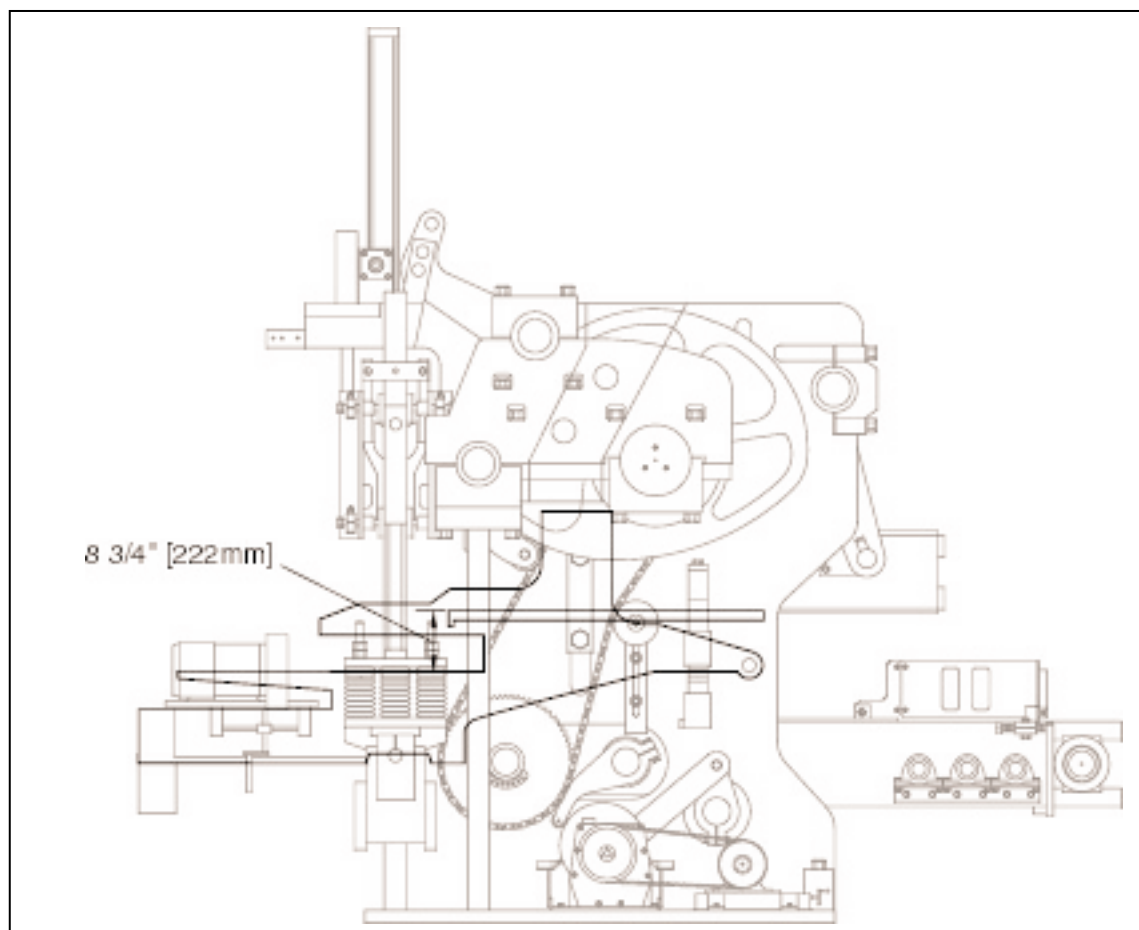

Figure 4.27 APRON PLATE ABOVE MOLD THROAT ADJUSTMENT.
4.2.4 Reconnect autofeed linkage and adjust so that the top of the apron plate is **8 3/4" [222 mm]** above the mold throat at the lowest position of the autofeed (see figure 4.27). To adjust, lower or raise the autofeed until apron plate is in correct position.